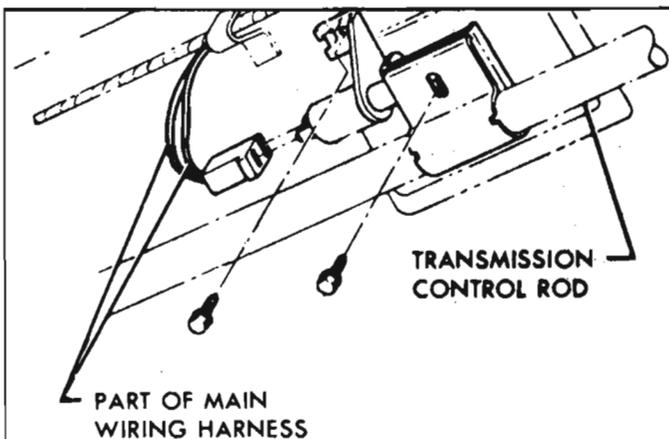

Fig. 8-111—Back-Up Lamp Switch Installation
4. Position the gearshift lever in reverse. Adjust striker on shifter tube so that tang pushes plunger into switch body. The distance between switch and tang on striker should be $\frac{3}{8}$ " (fig. 8-111).